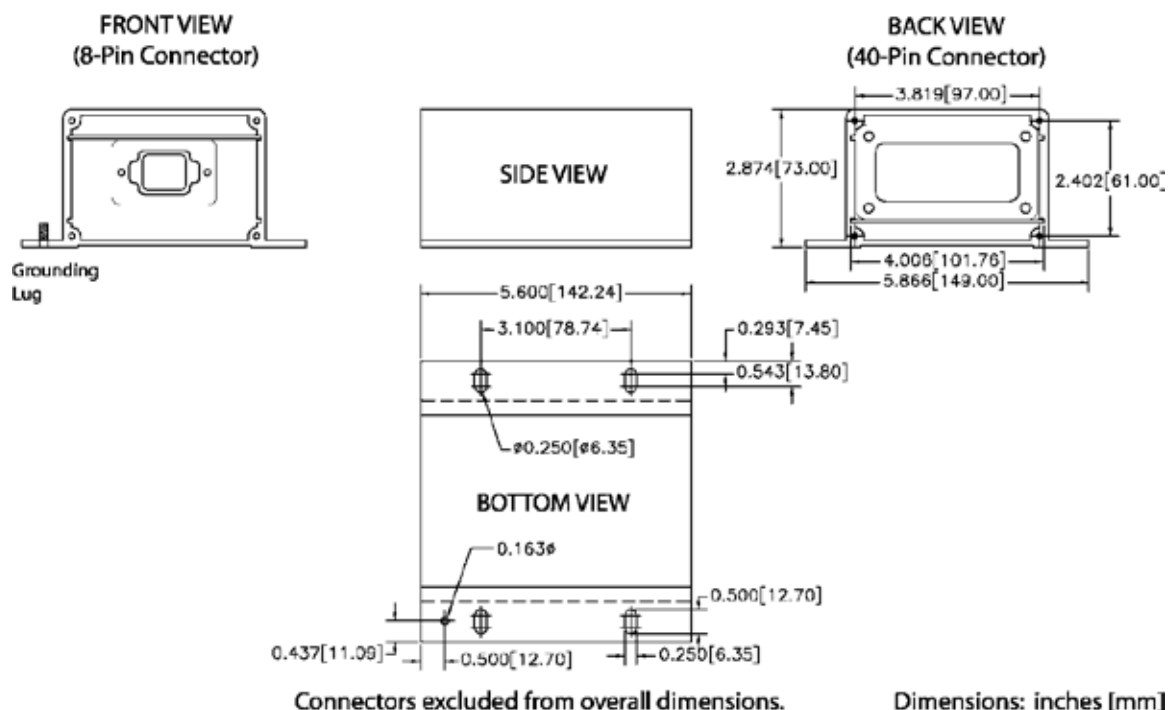

Figure 31.15 – Thermocouple, RTD, and Discrete I/O Module Physical Layout
- Reads up to eight (8) Platinum RTD inputs with 2, 3, and 4 wire configurations.
- Compact size (see mechanical drawing, Figure 31.15).